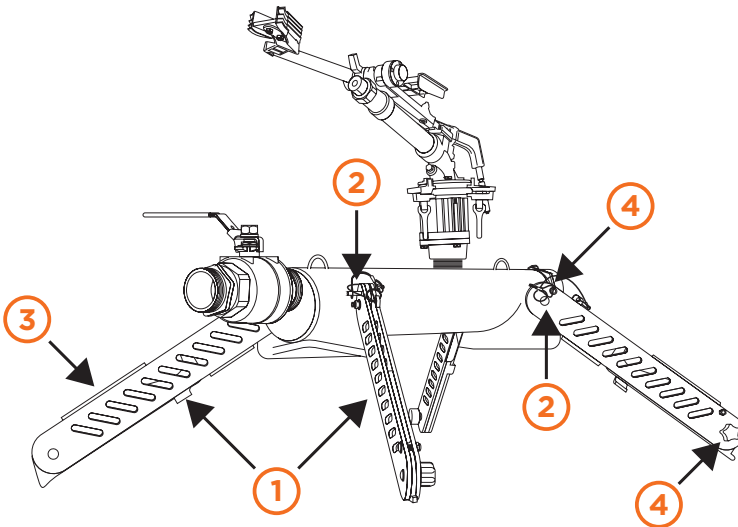

Figure 1.
- Place unit on ground and pull out extendable legs until they lie flat on the ground ①, *Figure 1*.
- Set up feet at an angle to the ground as shown in *Figure 1*, for more stability. To do this remove the pin ② from each leg rotating the legs out until they hit the ground. Do this for all legs.